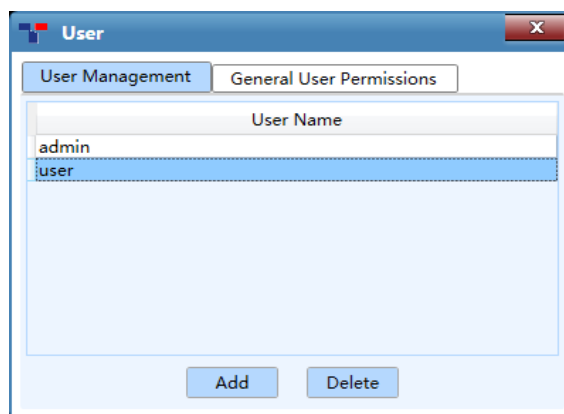

Figure D-3.7a User interface - User Management tab
3. **User**: click **User** option in the **Option** submenu and the application software will automatically pop up the user interface, as shown in figure D-3.7a.